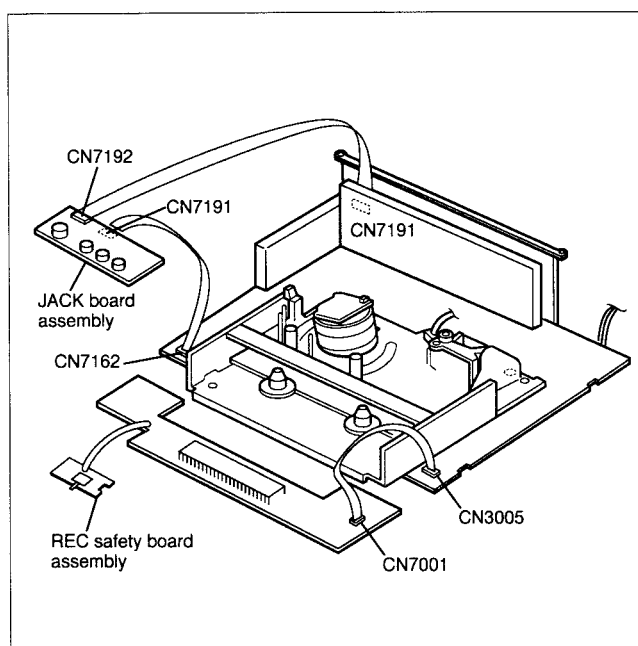

Fig. 1-4-3
- (6) Remove the Display board assembly and REC safety board (See 1.3 DISASSEMBLY/ASSEMBLY METHOD), then place them on the front side of the Main deck assembly and Main board assembly which have been deassembled at the procedure (6) and place the Jack board on the left side of the Main deck assembly and Main board assembly. Then connect the flat wires into CN7001 of the Display board assembly, CN7191 and CN7192 of the JACK board assembly (See Fig. 1-4-3).
1.4.3 Cassette loading and ejection methods in the "SERVICE POSITION" (See Fig. 1-4-3).
- (1) Insert a cassette halfway in the Cassette holder assembly.
- (2) Set the switch on the REC safety board assembly to ON (by pressing the switch).
- (3) As soon as the cassette starts to be loaded, set the switch on the REC safety assembly to OFF (by releasing the switch).
- (4) Now the desired operation (recording, playback, fast forward, rewind, etc.) is possible in this status (the status shown in Fig. 1-4-3).
- When performing diagnostics of the tape playback or recording condition in the "SERVICE POSITION", enter the desired mode before turning the set upside down, and do not change the mode during diagnostics while the set is placed upside down. If you want to switch the mode, turn the set to the normal position (the status shown in Fig. 1-4-3).
- (5) The switch on the REC safety board assembly does not have to be operated when ejecting a tape. But be sure to turn the set to the normal position before ejecting the tape.
- (7) Connect the power cord to the wall socket, and lift the cassette holder.